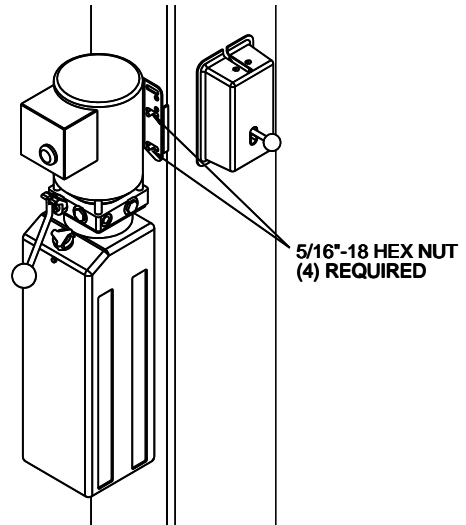

Fig 9 – Power Unit Mounting
- 24) Mount Power Unit to power column as shown in **Fig 9.** The mounting hardware, (4) 5/16"-18 hex nuts, are pre-installed on power unit mounting bracket.